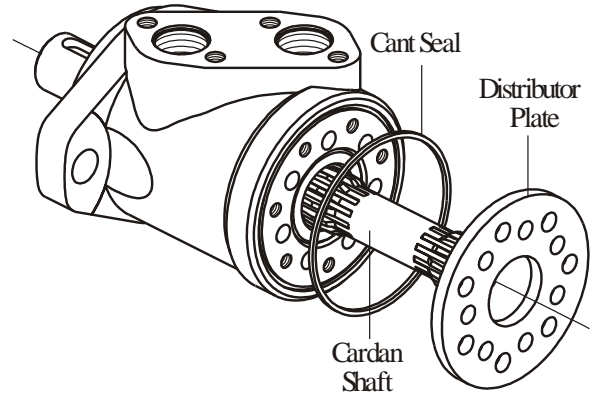

Fig.3
6. Remove cardan shaft (see Figure 3).
12. Lubricate and install cant seal in housing seal groove (see Fig.3).